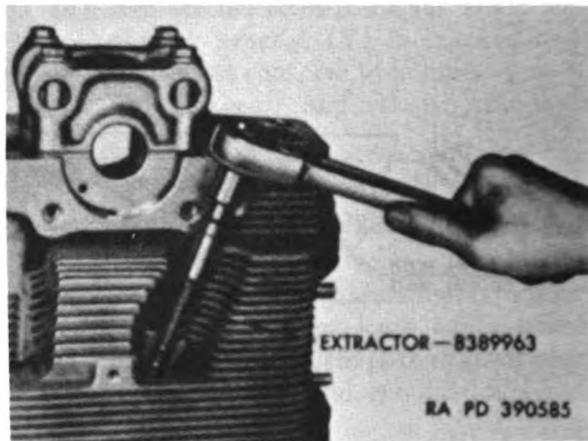

Figure 81. Removing spark plug Heli-coil threaded insert.
- (b) Insert extractor 8389963 as shown in figure 81. Applying constant pressure to extractor, turn extractor counterclockwise until insert is removed.